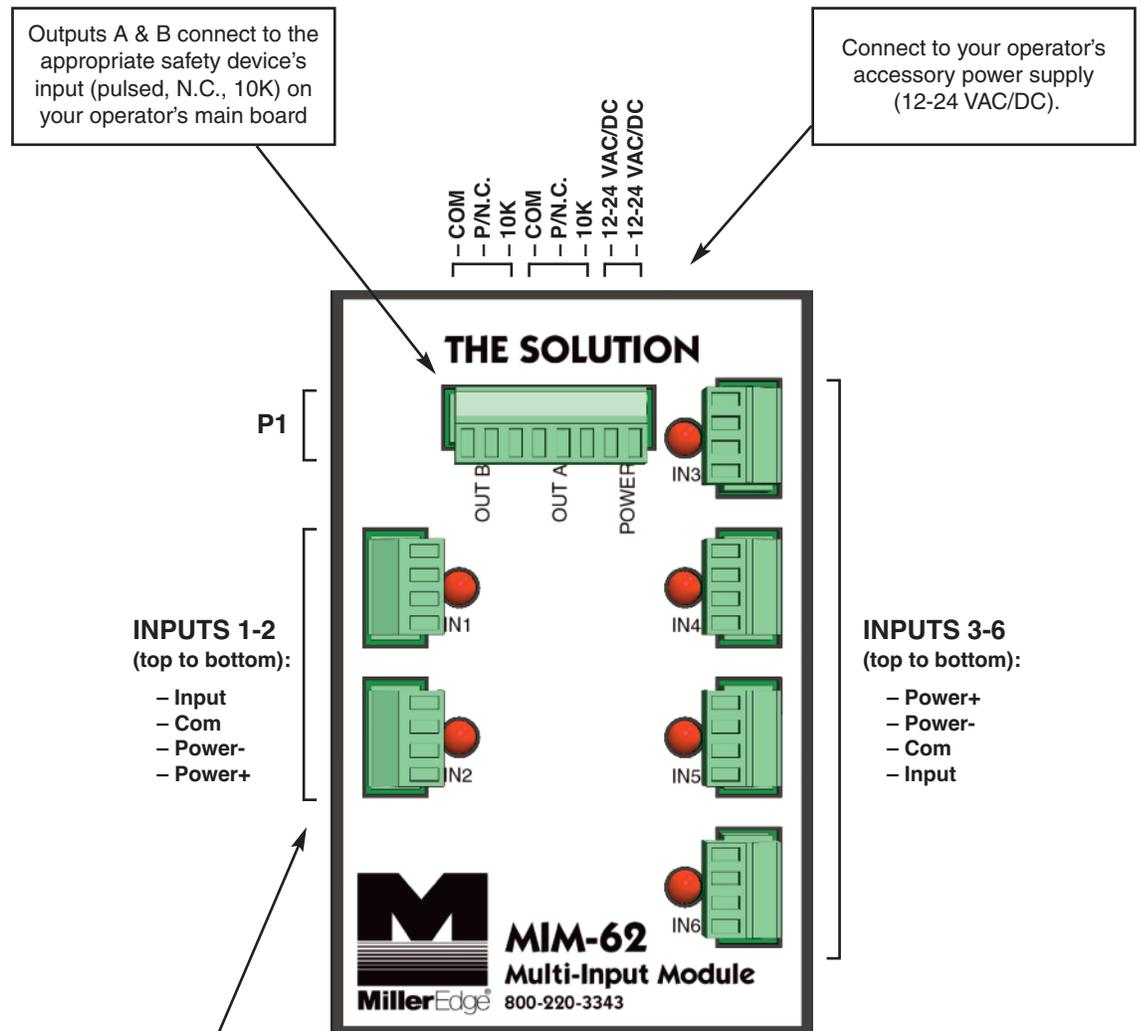

Figure 1
- 2-4. Connect the power leads to the removable 8-pin connector, as indicated in Figure 1.
- 2-6. Plug the monitored device's connector into an appropriate input, as indicated in Figure 1.